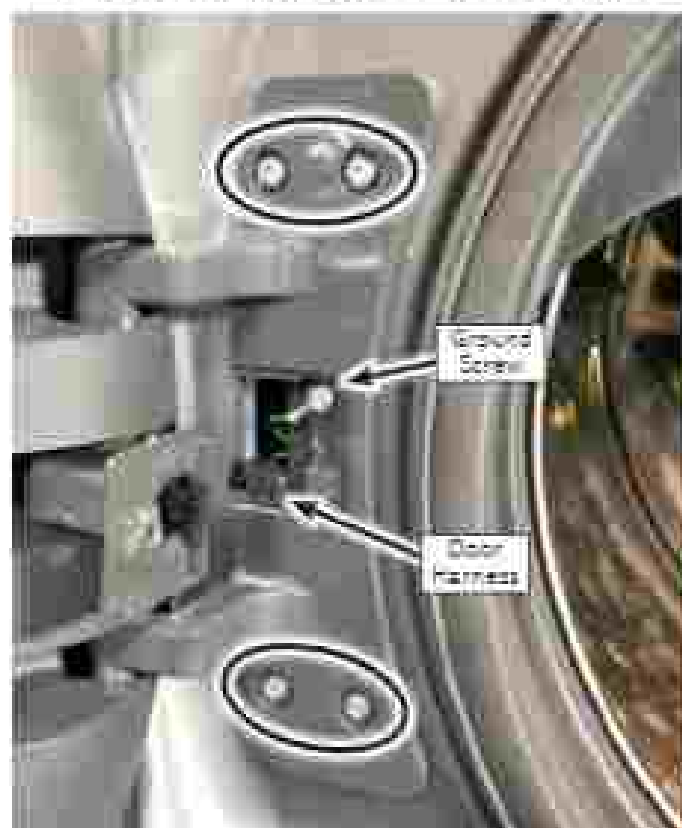

Figure 2
4. Using a T25 Torx driver, remove the ground wire screws (see Figure 2).
5. Using a T25 Torx driver, remove the four (4) screws (circled in Figure 2) securing the door hinge to the front panel.